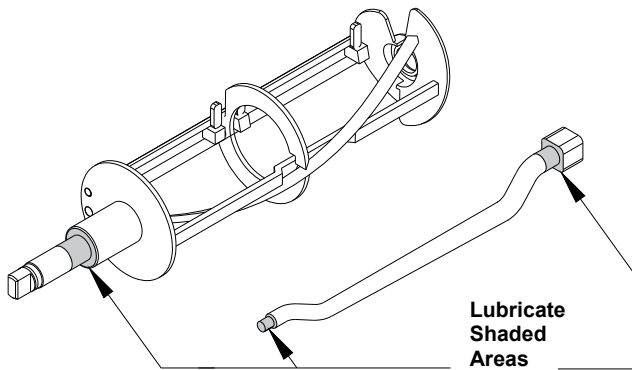
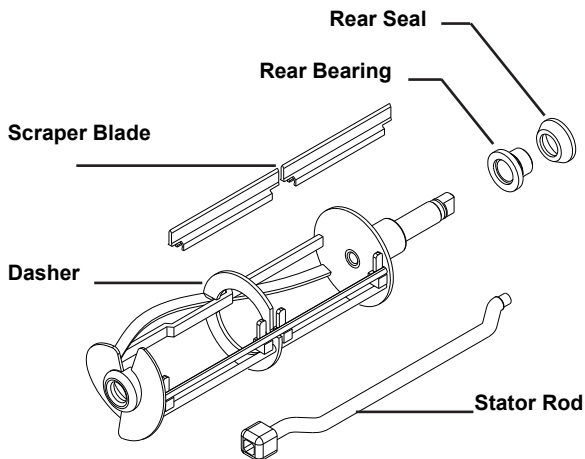

Fig. 15
Fig. 16
- a. Apply a generous amount of lubricant to the shoulder of the dasher and the area of the shaft where the white plastic portion of the assembled rear seal contacts the shaft (Fig. 15). This is easily performed by running a 1/4" bead of lubricant around the shoulder of the dasher.
- b. Lubricate the two areas of the stator rod (Fig. 15) and slide the stator rod into the dasher (Fig. 16). Make certain that the end of the stator rod is inserted into the hole at the rear of the dasher.
- c. Assemble and install the rear seal with the rubber portion toward the rear of the freezing cylinder as indicated in Fig. 16.